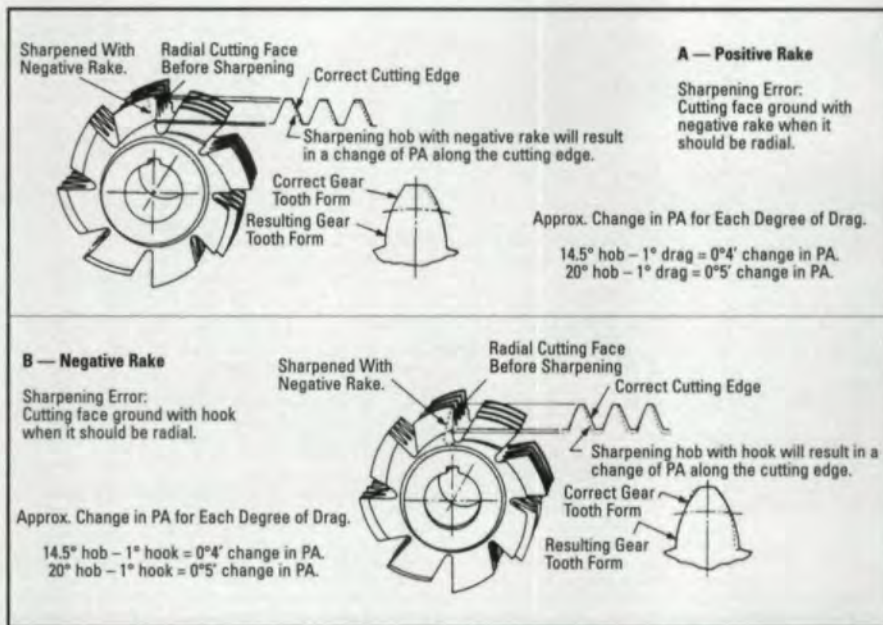

Fig. 1 — The effects of positive and negative rake resharpening error on profile.
Fig. 1 shows the effects of positive and negative rake on finished gear teeth. Incorrect positive rake (A) increase the depth and decreases the pressure angle on the hob tooth. The resulting gear tooth is thick at the top and thin at the bottom. Incorrect negative rake (B) decreases the depth and increases the pressure angle. This results in a cutting drag and makes the gear tooth thin at the top and thick at the bottom